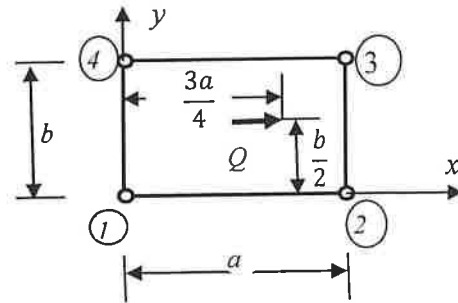

Figure 3(b)
3.2 Show that in the case of plane stress, the stiffness term k_{33} of a four-node rectangular element of dimension a and b (as shown in **Figure 3(a)**) and thickness t is given by: